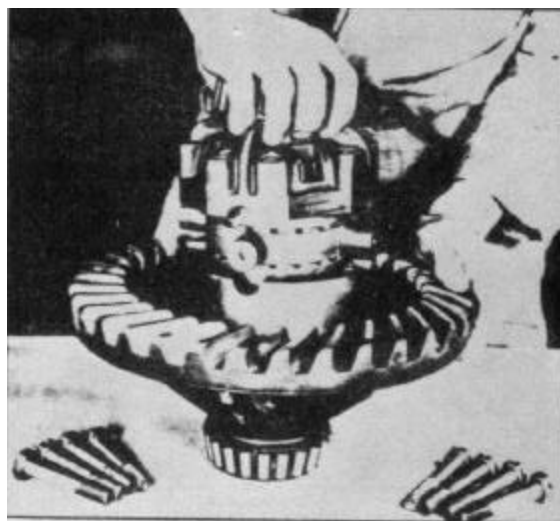

Figure 5-64
8. Mount the mating half of the case over the side gear and compress unit. Be sure the side gear splines are completely indexed with the clutch splines. Rotate to index side gear-clutch splines on both sides and align punch marks (Fig. 5-64).